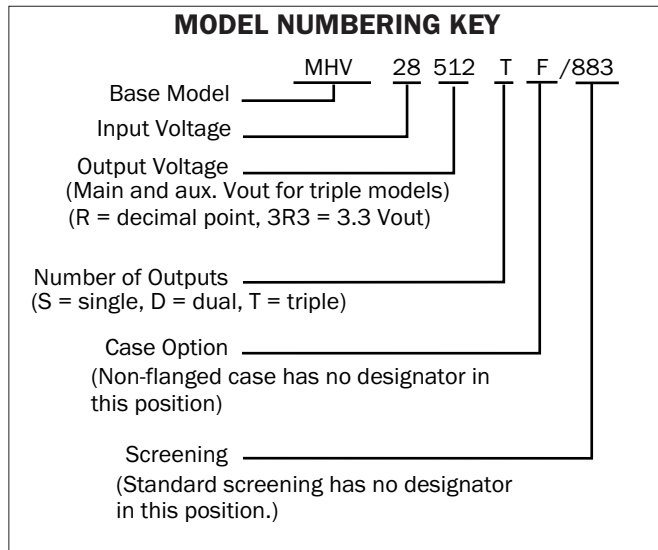

FIGURE 9: MODEL NUMBERING KEY
- See Figure 9, above, for an example of a model number.